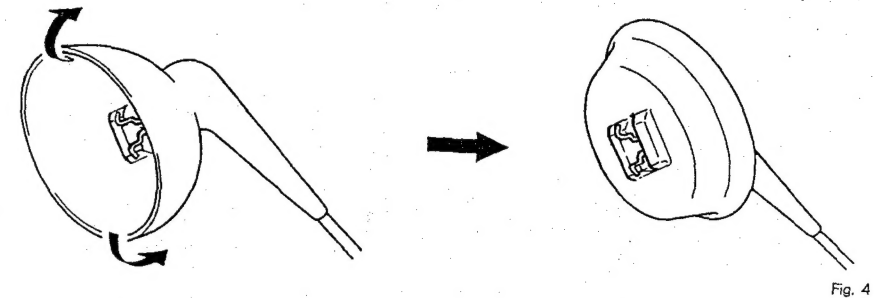

Fig. 4
- (4) Turn over the rubber cap symmetrically on the left and right. (See Figure 4)